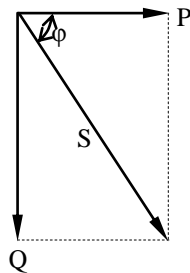

Figure 6 Power triangle
AC devices make use of three (3) forms of power – active (P), reactive (Q) and apparent power (S). The active power is the one consumed by the motor and which it converts to mechanical power (action). The reactive power is needed for the magnetization of the motor (field). The phasor representation of various powers is as shown below in Figure 6.